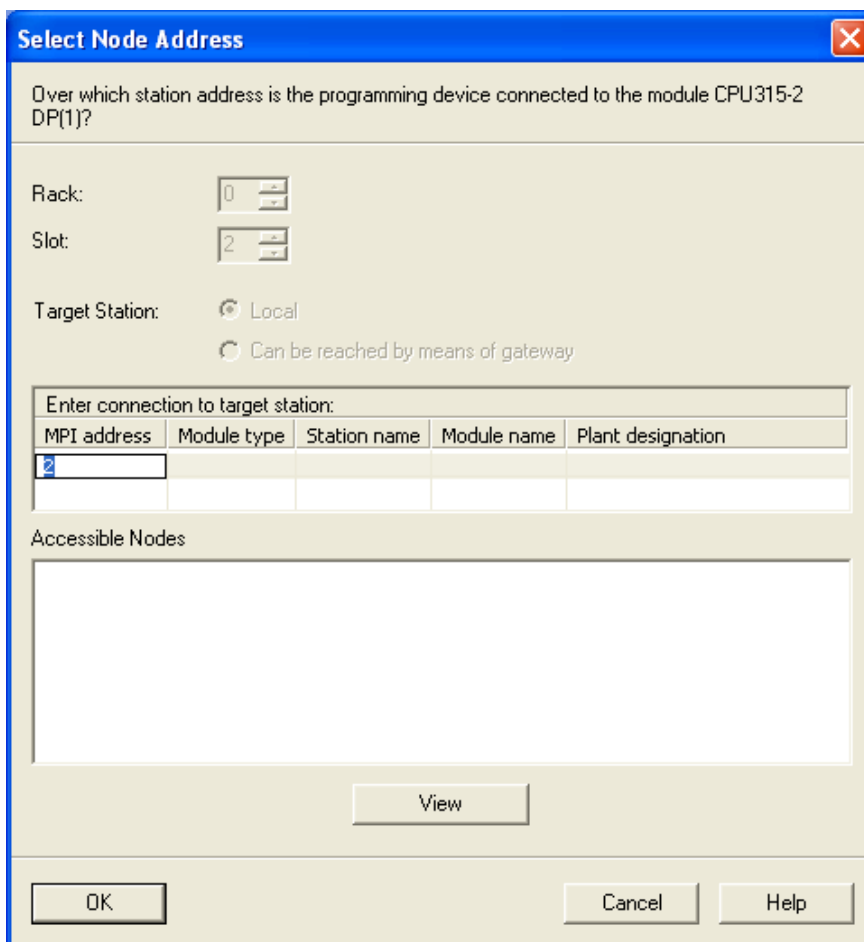

Figure 7-26
7. Click "OK" in the dialog box as Figure 7-26 to download the configured parameters.